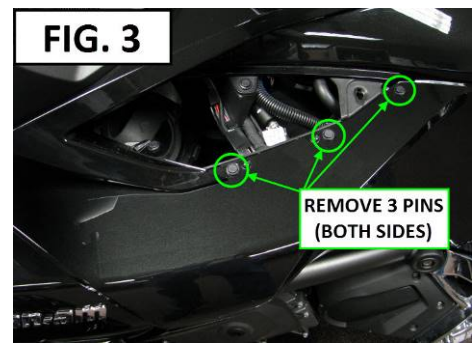

FIG. 3
3. USING A FLAT SCREWDRIVER PRY THE CENTER UP OF EACH PLASTIC PIN SHOWN IN FIG. 3 REMOVE THE PINS. THERE ARE 6 PINS TOTAL 3 ON EACH SIDE.